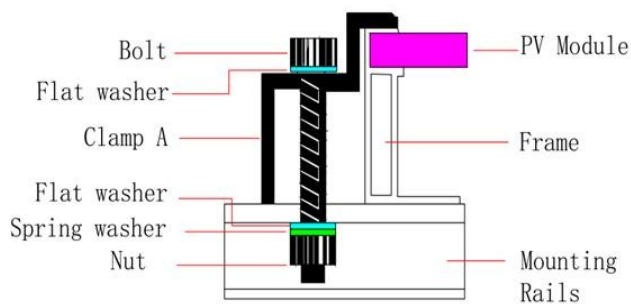
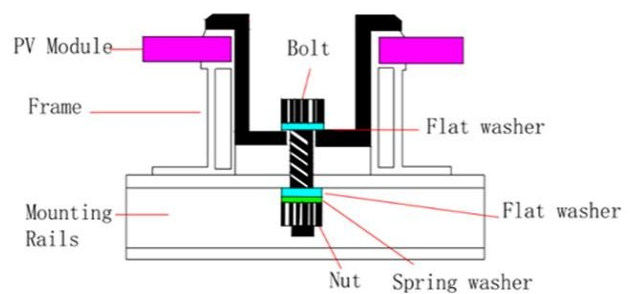

figure 5
figure 6
- Clamp material should be anodized aluminum alloy or stainless steel. The mounting details are shown in the following **figure5** and **figure6**.